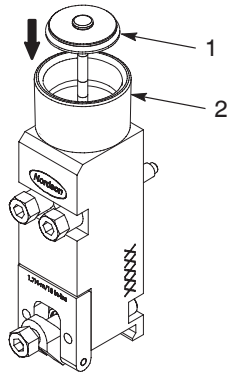

Figure 9-9 Dropping the needle-and-piston assembly through the piston insertion tool into the module body
2. See Figure 9-9. Lubricate the seal portion of a new needle-and-piston assembly (1) with neat's foot oil.
3. Stabilize the module body on a flat surface (such as a block or table) and position the piston insertion tool (2) on top of the module body.